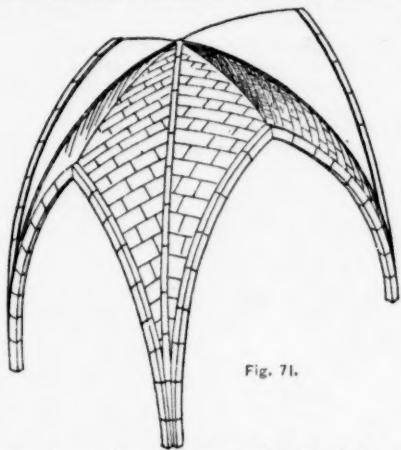

Fig. 70.
d. Groin, transverse and wall ribs. Ridges level. (Fig. 70.) If the panels are spheroidal, the ridges will be curved. The vaulting of the nave of Cologne Cathedral is of this kind. The transverse ribs are about twice as wide as the groin-rib. The panels are apparently of yellow brick. Those of the main vault are spheroidal; those of the side vaults have their joints parallel to the axis. Many of the French cathedrals are vaulted in a similar manner.